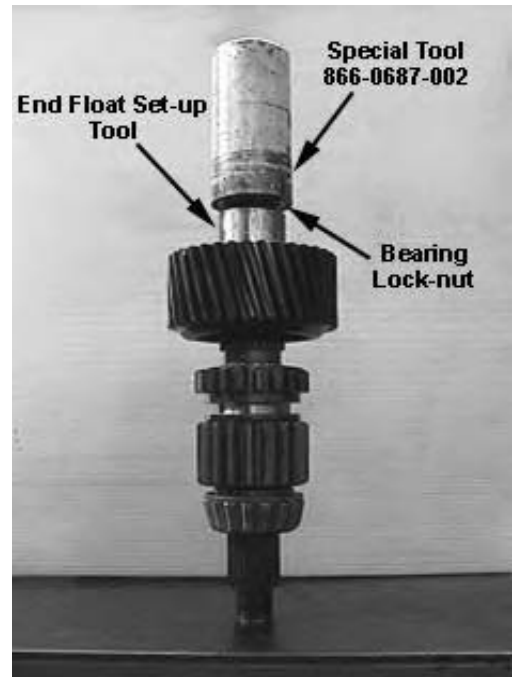

Fig. 37
6. Place the end-float set-up tool onto the shaft and install the rear bearing lock nut using special socket #866-0687-002. Torque to spec. See Fig. 37.